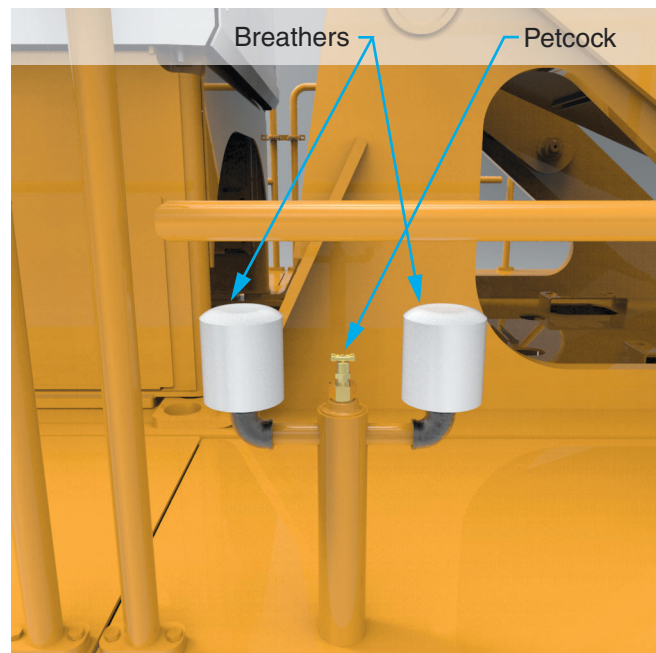

Figure 13 Hydraulic Tank Breathers
3. Relieve pressure in the tank by opening the petcock between the breathers. See Figure 13.